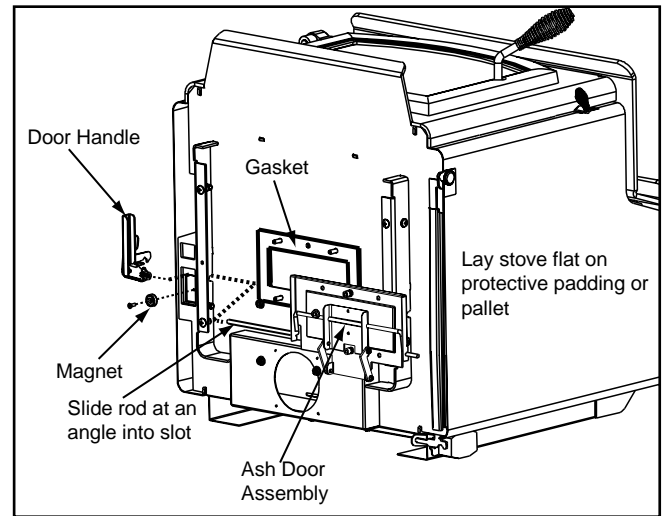

Figure 21.2
3. Remove the 2 nuts and 2 bolts holding the grate in place and set the grate aside. Discard the 2 nuts. Install the gasket over the 4 protruding screws. **Figure 21.2.**
4. Install ash door assembly by sliding the rod at an angle into the slot on the left side and sliding over the 4 screws protruding from the bottom of the stove. Secure with nuts provided. **Figure 21.2.**
5. Install magnet using a Phillips head screw driver. This magnet will hold the door handle in an open position which in turn holds the ash door open so ashes can be brushed into the ash drawer. **Figure 21.2.**